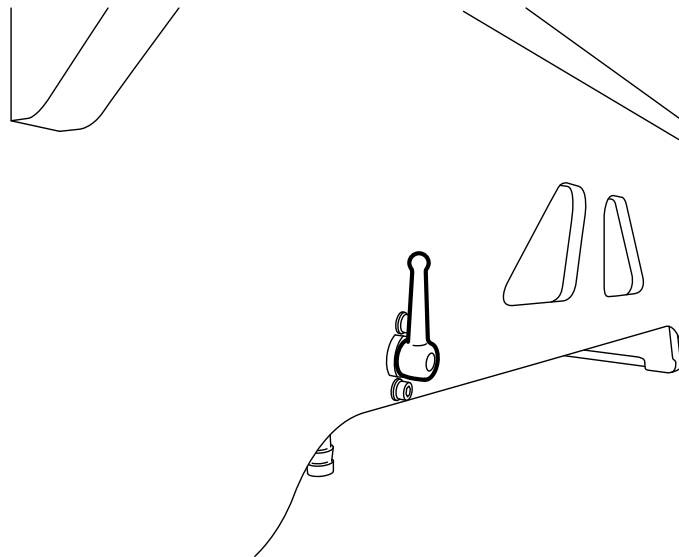

Figure 4-7 Tap for emptying the water tank
- Empty the water tank by turning the tap, see Figure 4-7 on page 32.